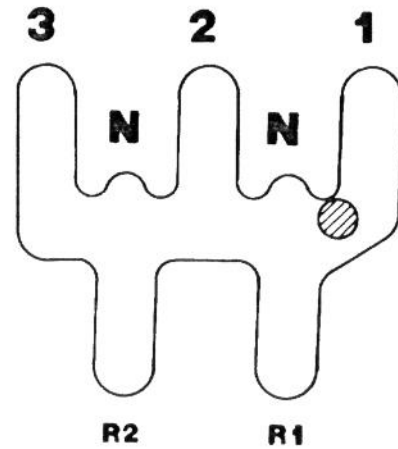

Figure 7
3. Move wheel drive control lever onto the hump between N and 1 (Fig. 7). Hold wheel drive control lever, in this position – on hump.